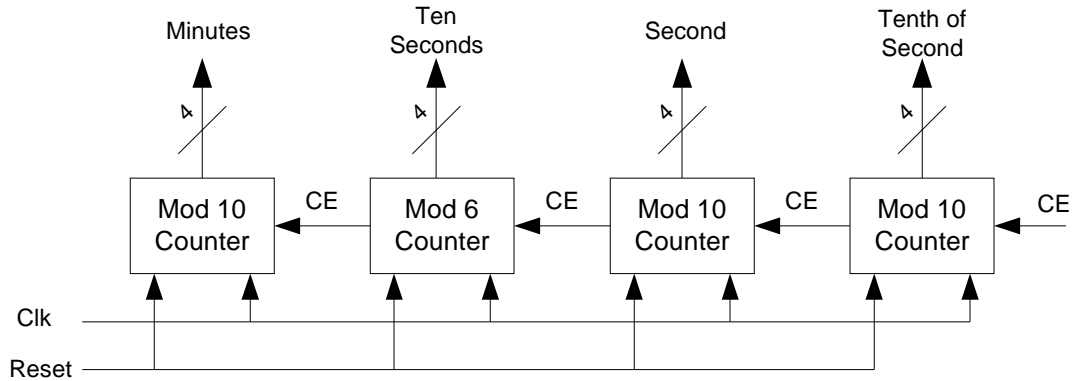

Figure 4
You can break down the stop watch counter subsystem into four individual counters as depicted in Figure 4.
18. Create a new schematic and enter a design similar to Figure 4.